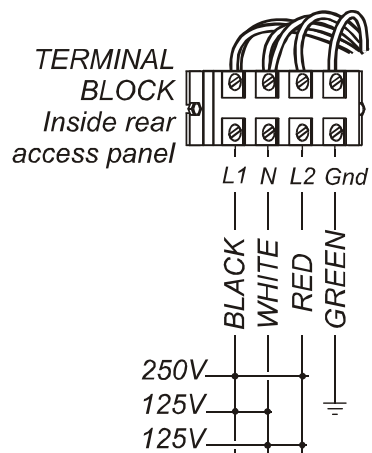

Fig. 3 Electrical Installation
**Models 8752** must be wired by an electrician, and require a 115/230V 20A circuit (50/60 Hz, 2 hot legs / 1 neutral leg, plus ground). Remove rear panel to gain access to terminal block. Green terminal must be connected to a suitable building ground. Circuit must be capable of 4000 Watts. See figure 3 at right.